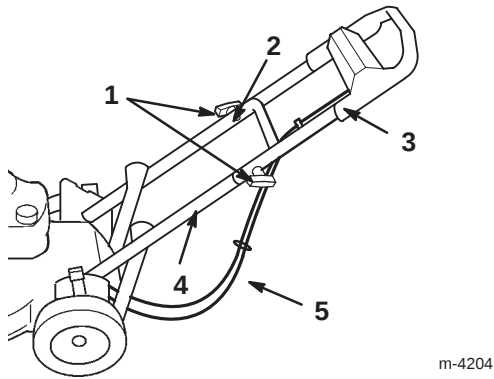

Figure 3
- Slide the upper handle section ends over the lower handle so the sections nest together (Fig. 3).
- Ensure that the cables are routed below and behind the lower handle as illustrated in Figure 3.
- Secure the upper handle to the lower handle using 2 contoured-handle bolts and 2 knobs (Fig. 3).